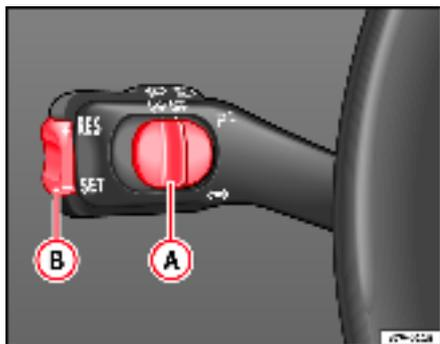
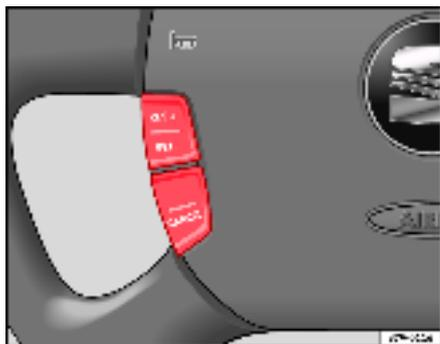

Fig. 132 Turn signal and main beam headlight lever control (A) and rocker switch (B) for cruise control
Fig. 133 Multifunction steering wheel: CCS controls
- Move the control ⇒ fig. 132 (B) to the left to **ON**. The  symbol lights up in the combi-instrument when the cruise control system is switched on.
- Move the control ⇒ fig. 132 (A) to the right to **OFF** or press the key ⇒ fig. 133 (CANCEL) once.
- Press the lower part **SET** of the rocker switch ⇒ fig. 132 (B) once briefly when you have reached the speed you wish to set ⇒ fig. 133 (SET-). This speed is then stored and maintained.
- To reach the desired speed hold down the upper part of the rocker button (RES+) ⇒ fig. 132 (B) or button ⇒ fig. 133 (RES+).
- To reach the desired speed hold down the lower part of the rocker button (SET-) ⇒ fig. 132 (B) or button ⇒ fig. 133 (SET-). The speed falls as the vehicle is no longer accelerating, not due to sharp braking.
To resume the control function, release the brake or clutch pedal, move the switch **A** to ON or press the button  $\Rightarrow$  page 177, fig. 132 **RES+** or button  $\Rightarrow$  page 177, fig. 133 once.
- Push the switch  $\Rightarrow$  page 177, fig. 132 **A** to “OFF”, or